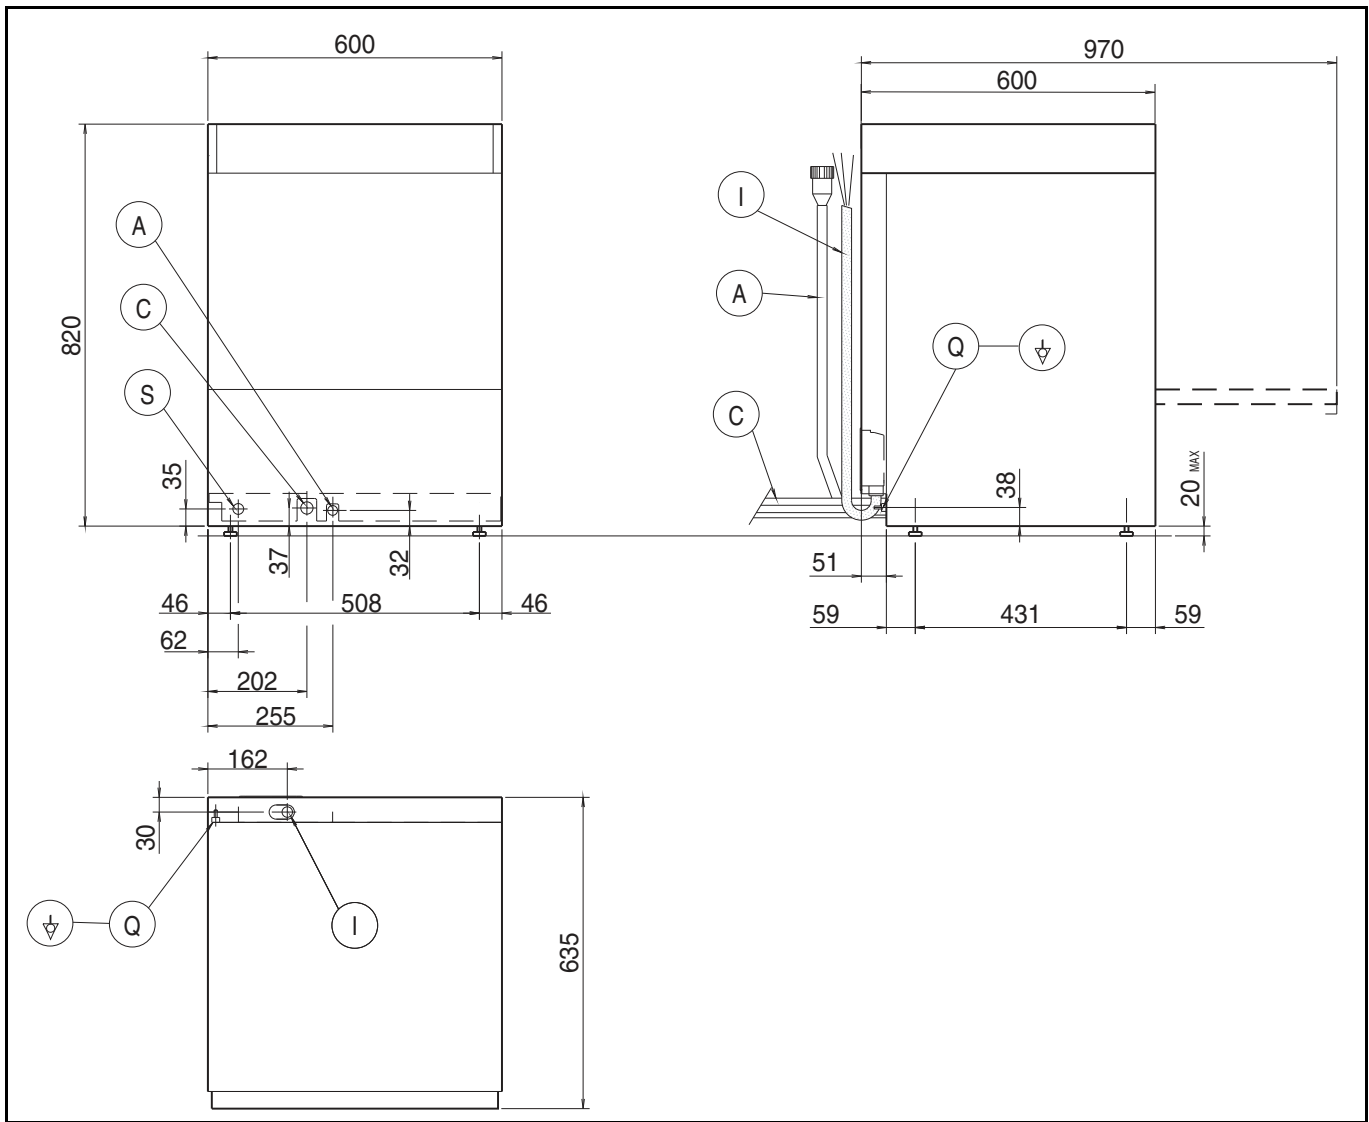
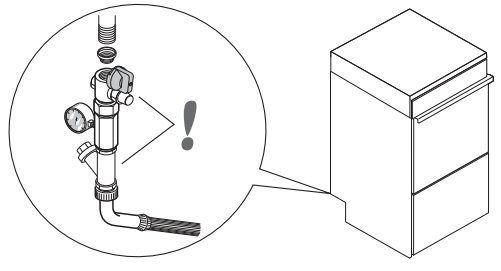

Figure 4
Figure 6
Legend Figure 4
- Connect the appliance water supply pipe "A" (Figure 4) to the mains, fitting a cut-off cock, the filter provided and a pressure gauge between the appliance and the mains (Figure 6).
- **On the model with free-fall drainage:** connect the waste outlet pipe "C" (Figure 4) to the main drain pipe, fitting a trap, or place the outlet pipe over an S trap set into the floor.
- Connect the earth wire of the power supply cable to an efficient earth clamp. The appliance must also be included in a unipotential system, the connection being made through the screw "Q" (Figure 4) marked with the symbol "⚡". The unipotential wire must have a cross section of 10 mm².